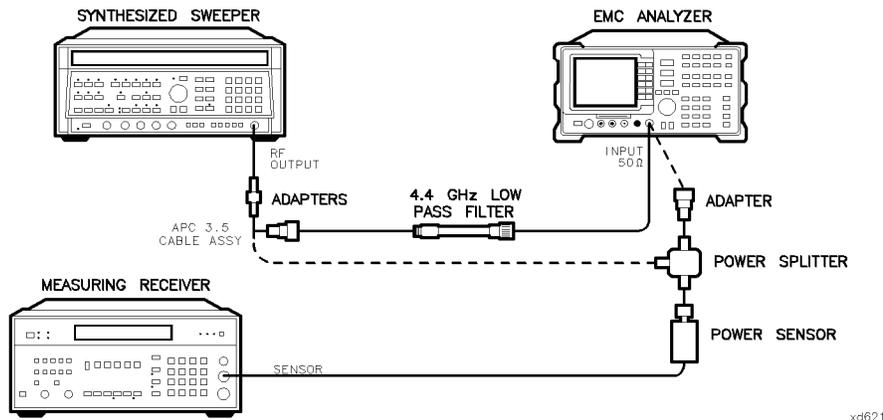

Figure 2-53.
13. Connect the equipment as shown in Figure 2-53, with the output of the synthesized sweeper connected to the input of the power splitter, and the power splitter outputs connected to the EMC analyzer and the power sensor.
- 24. Connect the equipment as shown in Figure 2-53 with the filter in place.